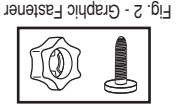

Fig. 2 - Graphic Fastener
2. Unsnap the five (5) graphics fasteners (see Fig. 2) included with the Graphics Panel and separate the plastic nuts from the screws. Insert the screws into the five holes to secure the Graphics Panel to the Back Panel (see Fig. 1). Hand-tighten each fastener from the back with the plastic nuts until the Graphics Panel is securely attached to the Back Panel. Set Back Panel with attached Graphics aside.